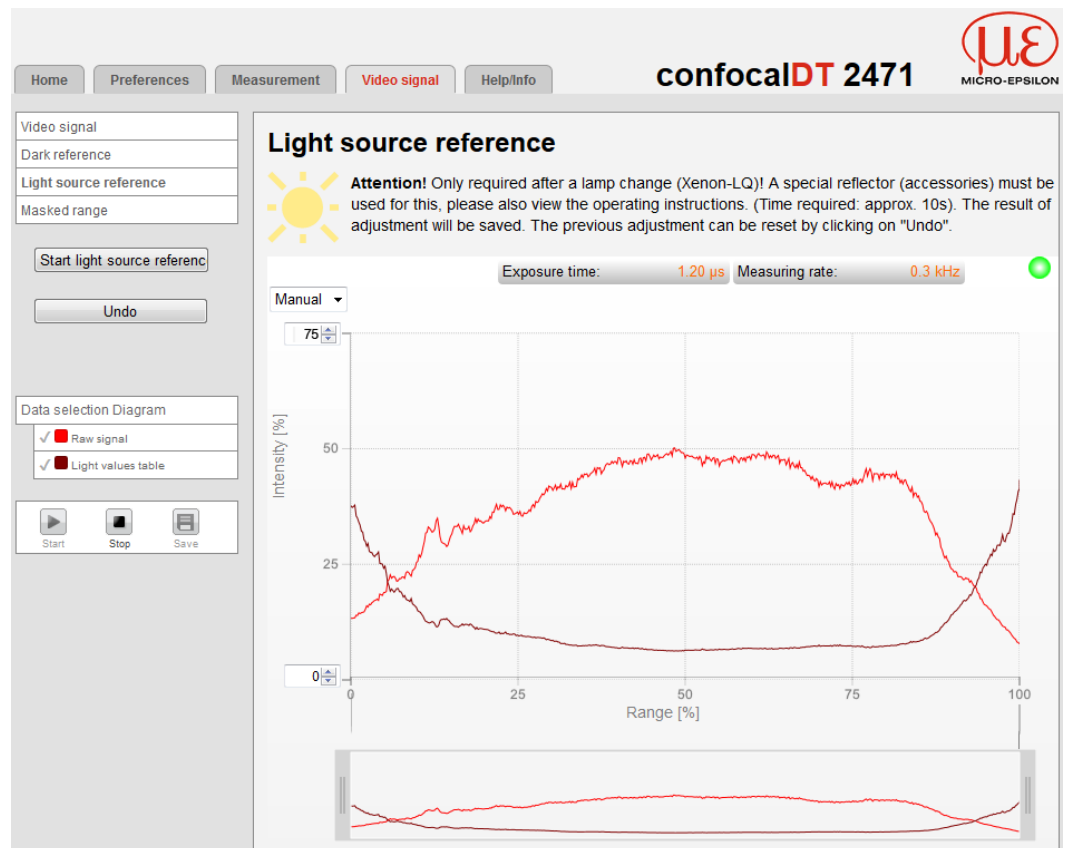

Fig. 57 Light reference video signal (example: IFC2471 with xenon light source)
- Observe the video signal, see Fig. 57.